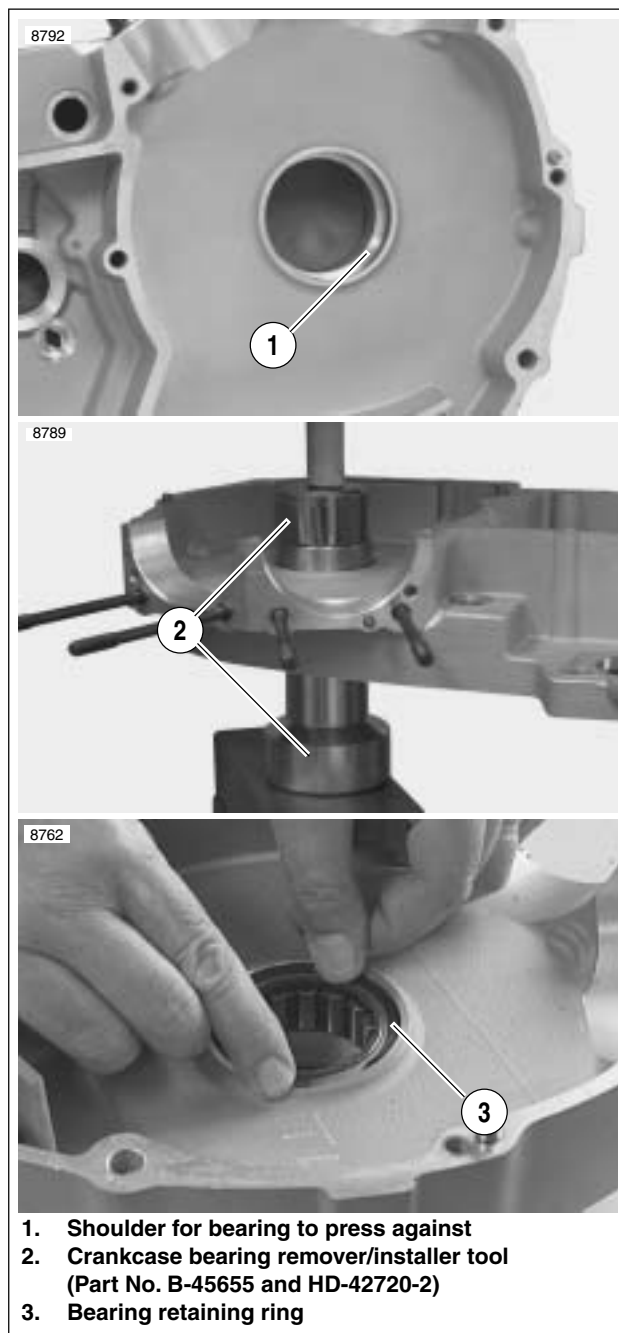

Figure 3-151. Left Main Bearing Installation
1. See Figure 3-151. Using CRANKCASE BEARING REMOVER/INSTALLER (Part No. B-45655 and HD-42720-2), install left main bearing into left crankcase half from the inside.